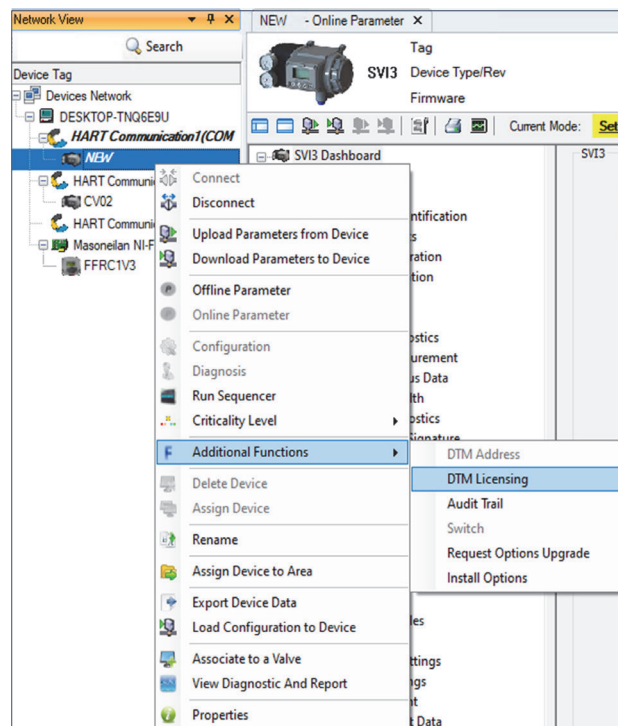

Figure 5 - Sample DTM Registration Path
1. Open a Masoneilan DTM, select a device and then select **Additional Functions > DTM Licensing** (Figure 5).